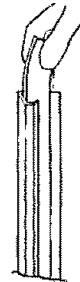

FIGURE 5
4. REMOVE THE HANDLE TRIM STRIP. Remove the trim strip from the handle track. Bend the strip gently if necessary, to clear the ceiling. DO NOT KINK. See Figure 5.